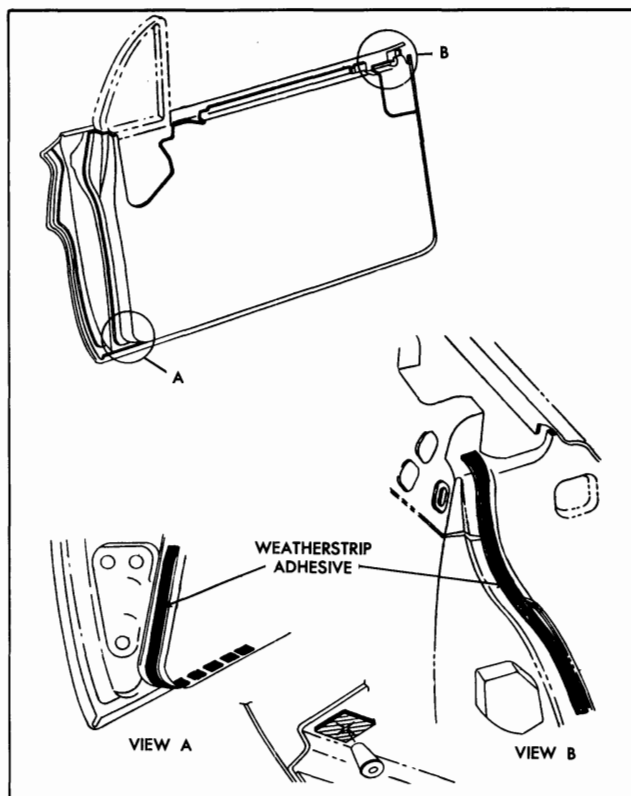
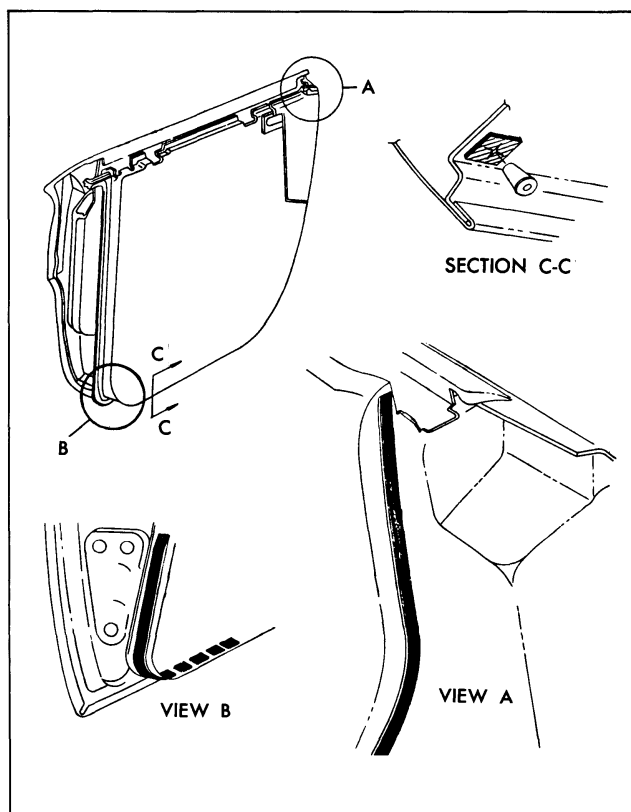

Fig. 3-8 Weatherstrip Adhesive - Front Door
Fig. 3-9 Weatherstrip Adhesive - Rear Door
4. Carefully break cement bonds securing weatherstrip to door. A flat-bladed tool, such as a putty knife, will prove helpful in breaking cement bond. See Fig. 3-8 for front door cement usage and Fig. 3-9 for rear door cement usage.
2. Clean off old cement from door to insure a clean cementing surface. Apply a bead of an approved weatherstrip adhesive to door as depicted in Figs. 3-8 and 3-9.